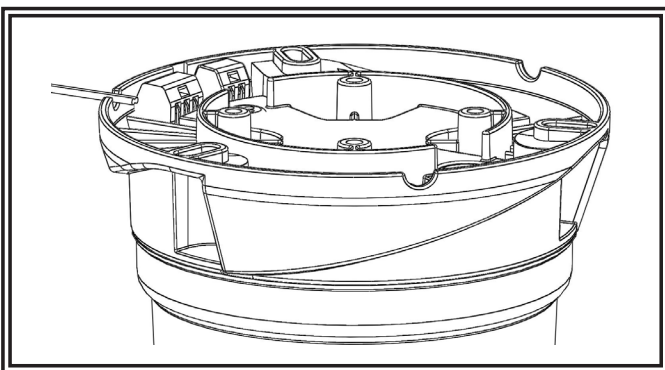

FIGURE 4
7. Arrange the connectors in the base of the unit as shown in Figure 4 and route the cigarette adapter cable through the notch in the base.